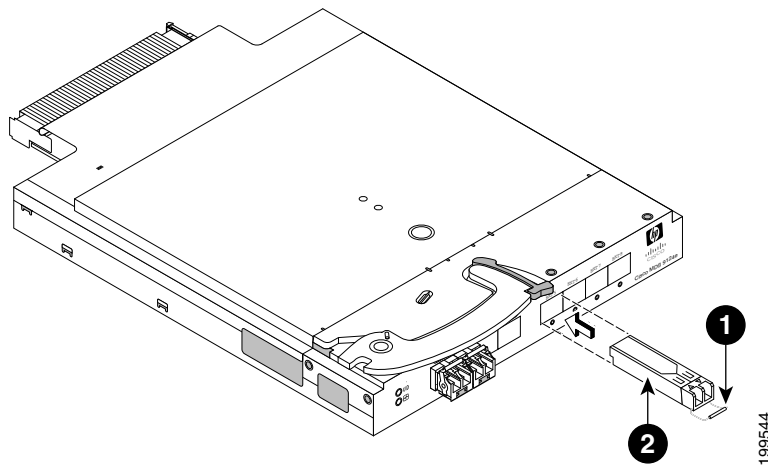

Figure 6 Installing an SFP
2. Orient the SFP with the appropriate port (Figure 6).